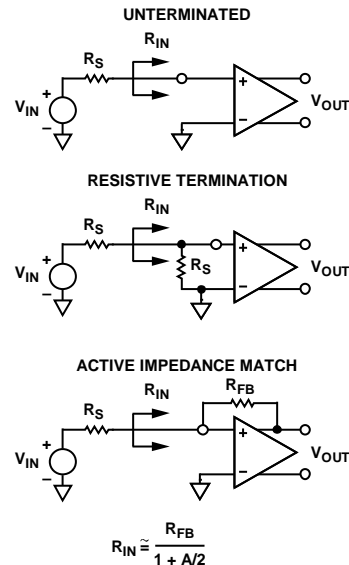
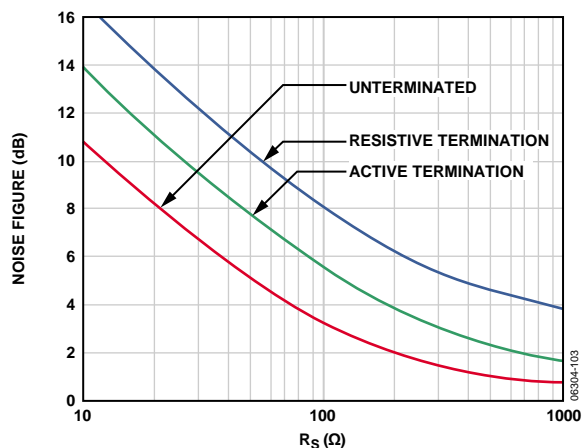
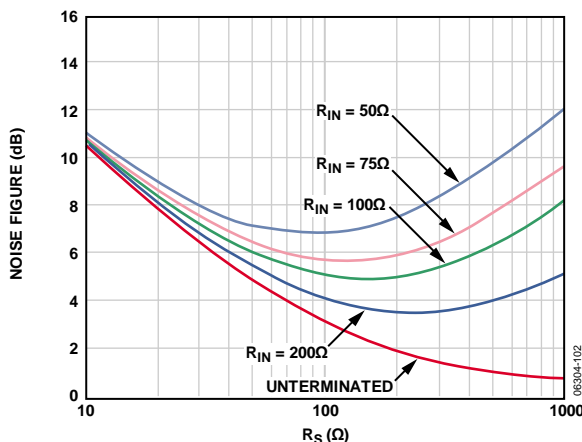

Figure 43. Input Configurations
Figure 44. Noise Figure vs. R_S for Resistive Termination, Active Termination Matched, and Unterminated Inputs, $V_{Gain} = 1\text{ V}$, 15.6 dB LNA Gain
Figure 45. Noise Figure vs. R_S for Various Fixed Values of R_{IN} , Active Termination Matched Inputs, $V_{Gain} = 1\text{ V}$, 15.6 dB LNA Gain
The short-circuit noise voltage (input-referred noise) is an important limit on system performance. The short-circuit noise voltage for the LNA is 1.2 nV/ $\sqrt{\text{Hz}}$ or 1.4 nV/ $\sqrt{\text{Hz}}$ (at 15.6 dB LNA gain), including the VGA noise. These measurements, which were taken without a feedback resistor, provide the basis for calculating the input noise and noise figure (NF) performance of the configurations shown in Figure 43. Figure 44 and Figure 45 are simulations of noise figure vs. R_s results using these configurations and an input-referred noise voltage of 4 nV/ $\sqrt{\text{Hz}}$ for the VGA. Underterminated ($R_{FB} = \infty$) operation exhibits the lowest equivalent input noise and noise figure. Figure 45 shows the noise figure vs. source resistance rising at low R_s —where the LNA voltage noise is large compared with the source noise—and at high R_s due to the noise contribution from R_{FB} . The lowest NF is achieved when R_s matches R_{IN} .
The primary purpose of input impedance matching is to improve the transient response of the system. With resistive termination, the input noise increases due to the thermal noise of the matching resistor and the increased contribution of the LNA's input voltage noise generator. With active impedance matching, however, the contributions of both are smaller (by a factor of $1/(1 + \text{LNA Gain})$) than they would be for resistive termination. Figure 44 shows the relative noise figure performance. In this graph, the input impedance was swept with R_S to preserve the match at each point. The noise figures for a source impedance of 50 Ω are 7.1 dB, 4.1 dB, and 2.5 dB for the resistive termination, active termination, and unterminated configurations, respectively. The noise figures for 200 Ω are 4.6 dB, 2.0 dB, and 1.0 dB, respectively.
Figure 45 shows the noise figure as it relates to R_S for various values of R_{IN} , which is helpful for design purposes.